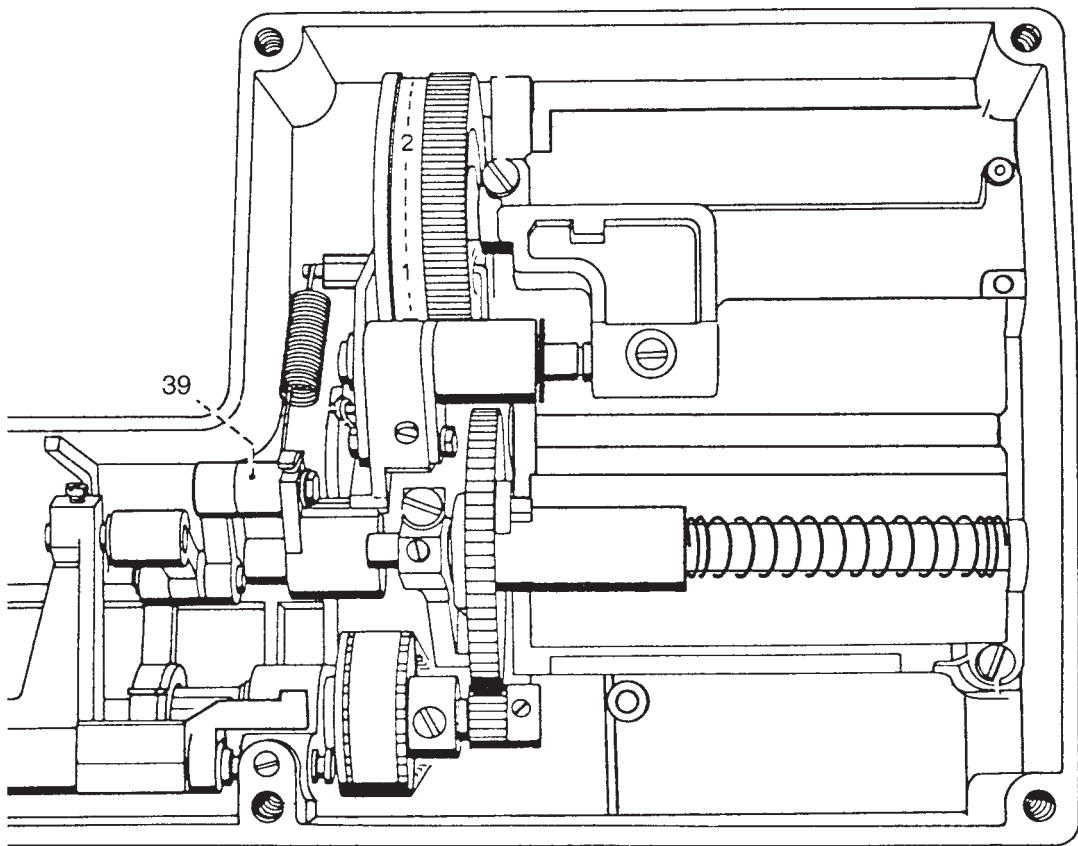

Fig. 40
- Rotate the handwheel until adjusting crank 39 is positioned fully to the front (fig. 40).